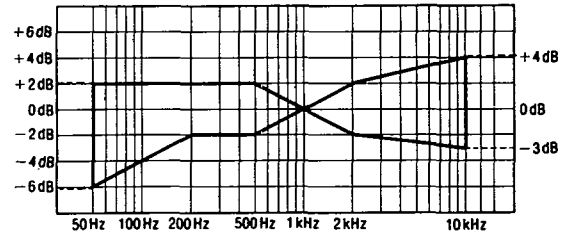

Fig. 12
4. Play back the test signals just recorded and verify that the levels at the test frequencies fall in the ranges specified in Fig. 12 with respect to the reference signal level.